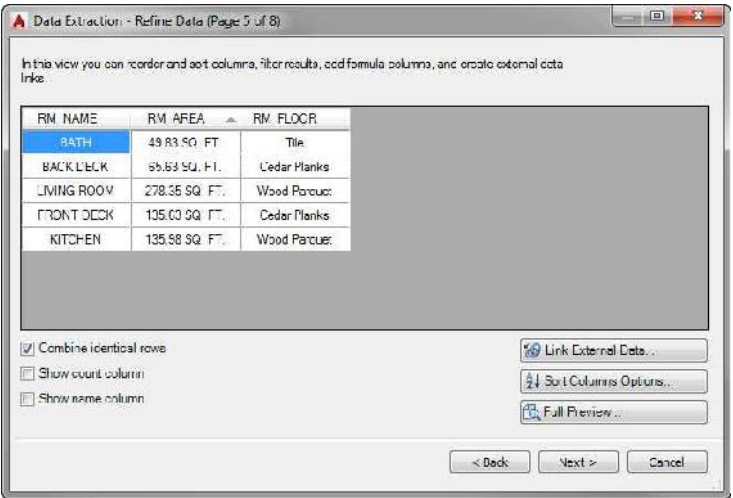

FIGURE 9.77: Choosing the display and order of your data-extraction columns
16. Deselect the Show Count Column and Show Name Column check boxes, as shown in Figure 9.77, and click Next to continue.